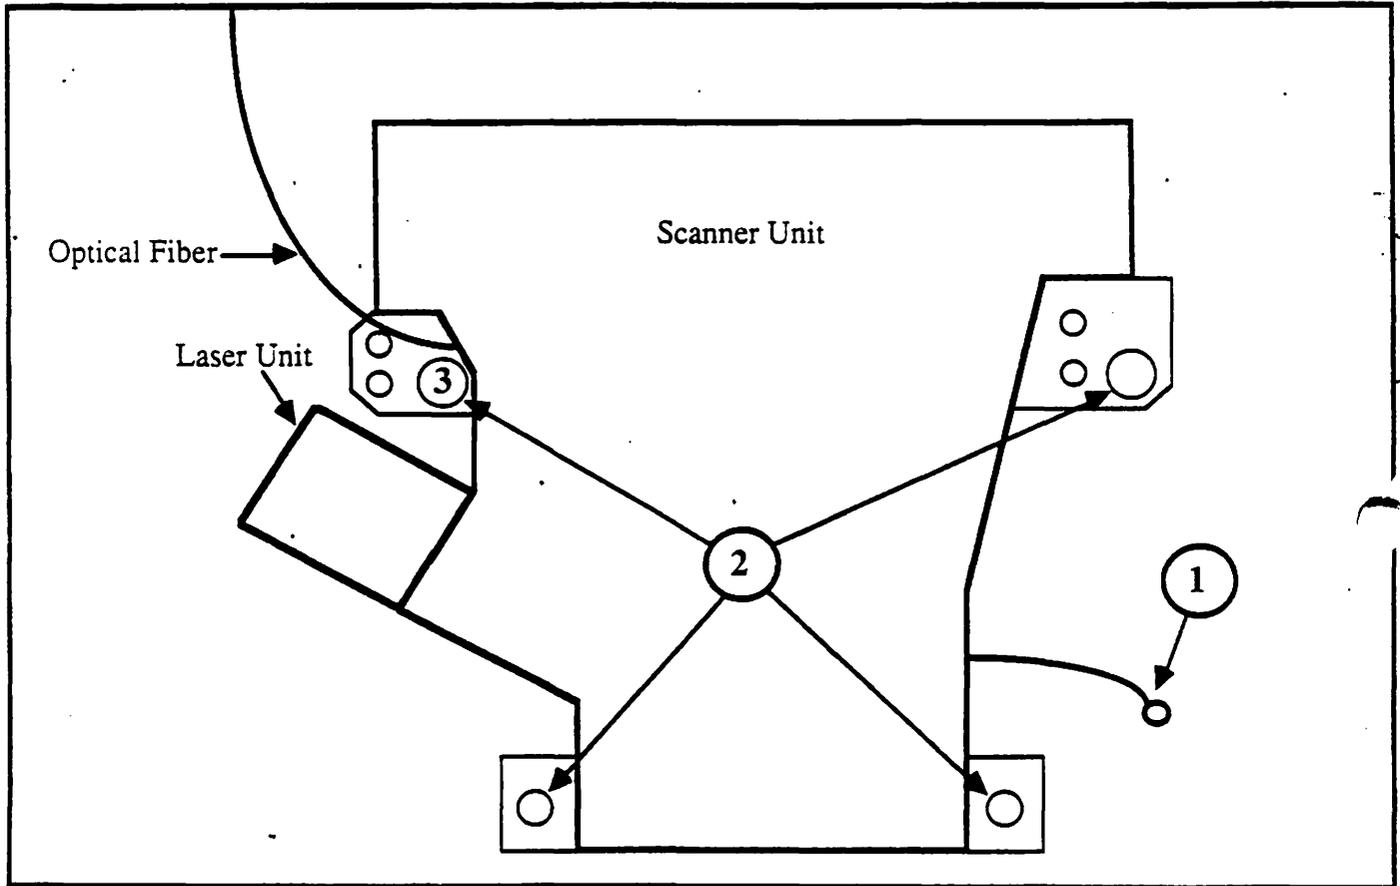

Figure 2-9
3. Disconnect the ground cable (Figure 2-9, #1). Make sure to capture the star washer under the lug.
4. Remove the four large mounting screws (Figure 2-9, #2). Make sure to remove the spacer and washers with the long screw nearest the laser (Figure 2-9, #3).
3. Replace the four large mounting screws. **NOTE:** The long screw goes through the spacer and washers in the hole nearest the laser unit (Figure 2-9, #3).